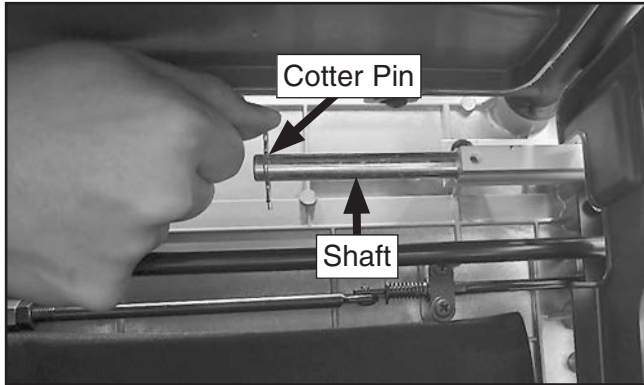

Figure 13. Installing cotter pin on one of two table extension shafts inside saw cabinet.
- Tip saw on its side, then install (2) cotter pins, one in each table extension shaft, as shown in **Figure 13**.